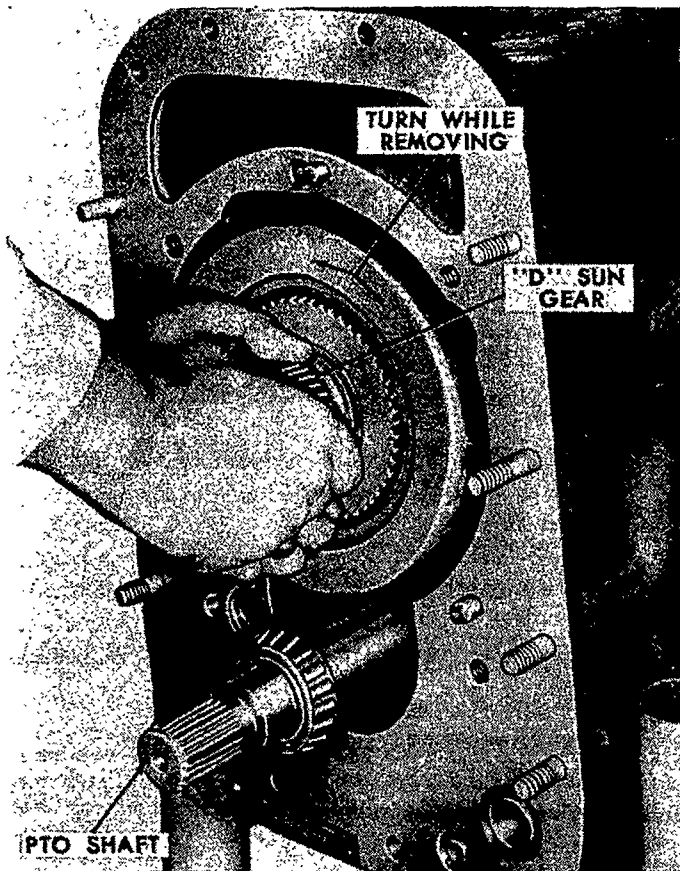

Figure 61
31. Install the "C" ring — "D" sun gear over the clutch 2 and 3 housing assembly, first aligning the ring gear with the "C" carrier pinions and the mainshaft with the bushing in the "D" sun gear. Then, align the splines with the spline plates in clutch pack 3, rotating the "D" sun gear back and forth while applying pressure toward the clutch pack, as shown in Figure 61.